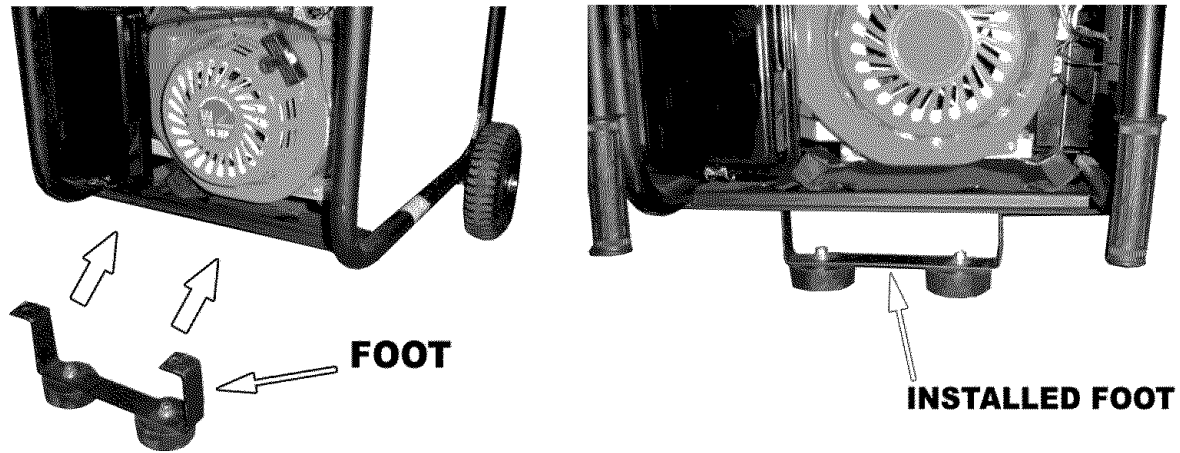

Figure 3- Installing foot bracket
1. Lift the generator up by the handles and slide the foot bracket underneath the generator as depicted in figure 3.